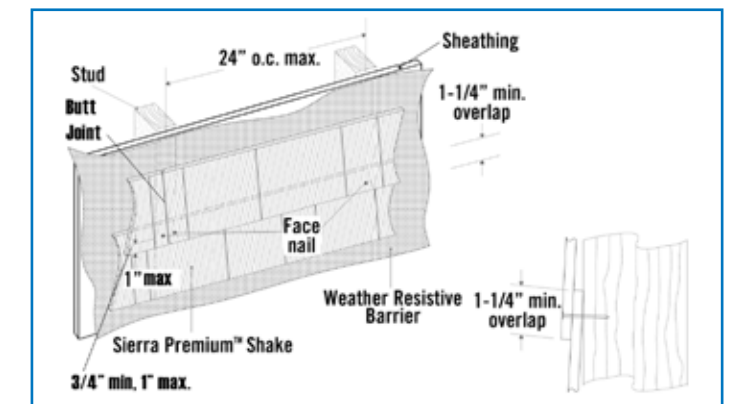

Fig. 6.2
- Sierra Premium™ Shake and Smooth boards must be installed with a minimum overlap of 1 1/4". (Fig. 6.2)
- Position the fastener a minimum distance of 3/4" up from the bottom edge of the board and no more than 1". This ensures the fastener will penetrate through the overlap and through both courses. Place the fastener no closer than 3/4" from board ends. (Fig. 6.2)